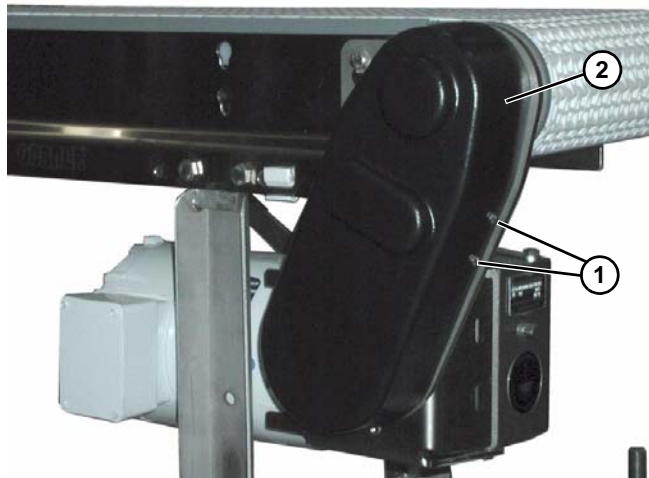

Figure 12
1. Remove four bolts (Figure 12, item 1) and remove cover (Figure 12, item 2).
5. Install cover (Figure 12, item 2) with four screws (Figure 12, item 1).